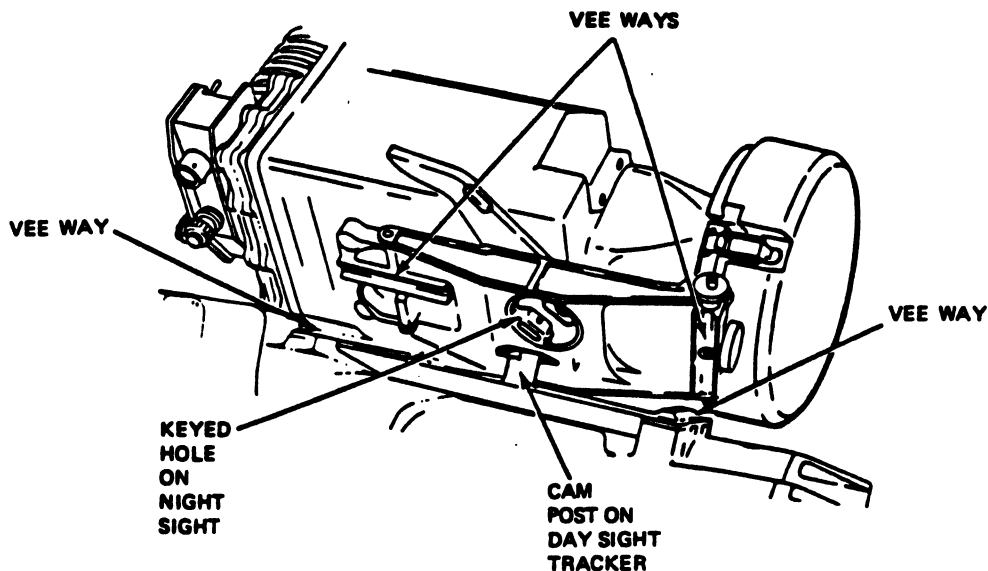

Fig 2-15. Installing night sight.
Check the locating "Vee Ways" on the night sight and day sight tracker for foreign material and clean them, if necessary (fig 2-15).
Step 3. Line up the keyed hole on the night sight with the campost on the day sight tracker (fig 2-15).